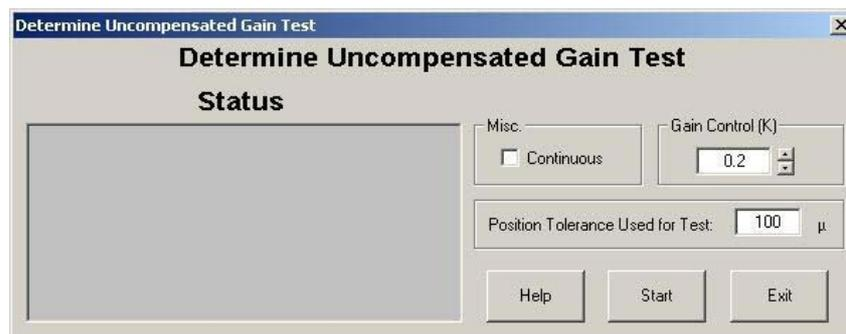
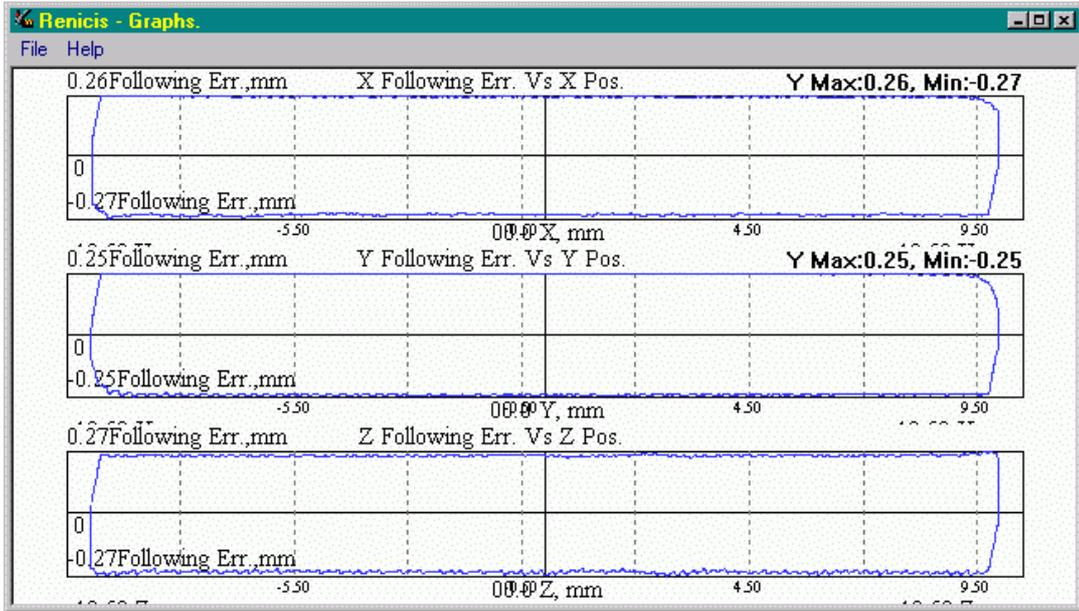

Figure 9
Figure 10
2. Follow the instructions given until the test dialog is displayed, refer to figure 9. Ensure that the default value of 0.2 is indicated, then click on the “Go” button. The machine should move in a forward and reverse cycle in all three axes and the following error present during the move displayed on the graphs. Examine the graphs produced (refer to figure 10).
3. If the machine runs smoothly and no periodic oscillations are apparent (refer to figure 10). The uncompensated gain can be increased (either directly in the edit box, or by clicking on the upper 'spin' button to the right of the edit box) by approximately 10%, now referred to as K_{P1} , and the test repeated by clicking on the “Go” button again.